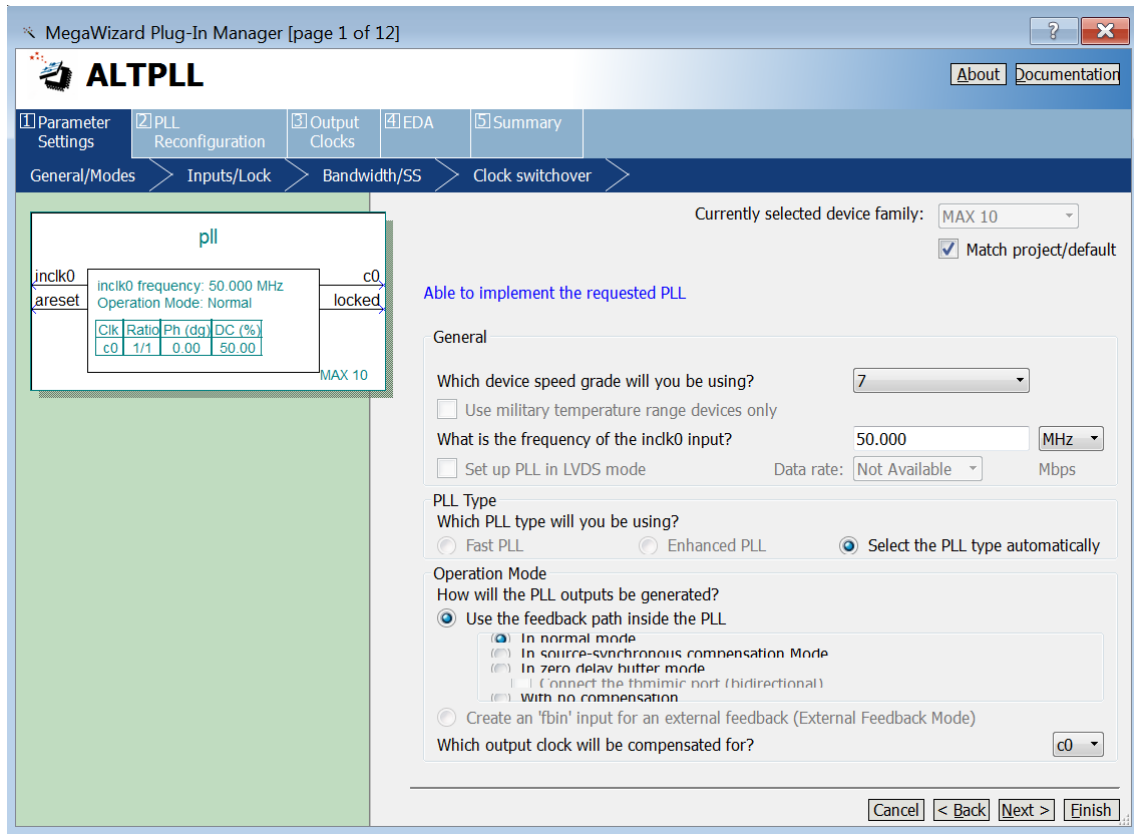

Figure 3-9 MegaWizard Plug-In Manager [page 1 of 12] Selections
5. In the MegaWizard Plug-In Manager [page 1 of 12] window, make the following selections (see **Figure 3-9**).